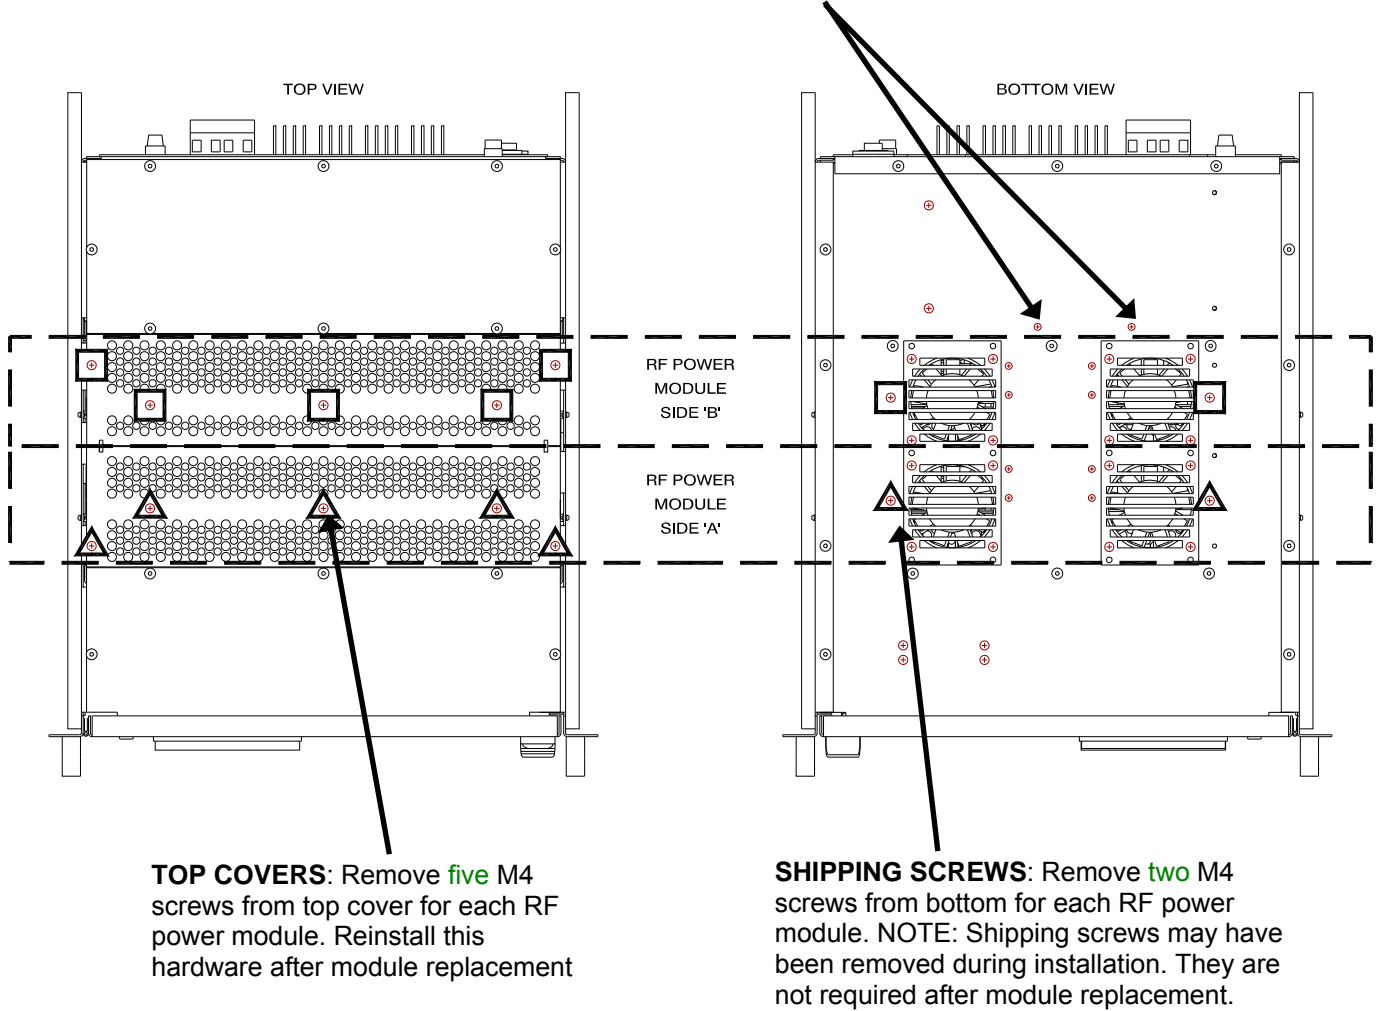

Figure 5-1: RF Power Module Securing Hardware
5.6.1 RF Power Module Removal See Figure 5-1.
- (e) Remove and retain four sets of M3 mounting hardware for the battery boost assembly at the back of the transmitter (see Figure 2-2) and two sets of M3 mounting hardware on the bottom of the transmitter (see Figure 5-1). Remove the battery boost assembly.